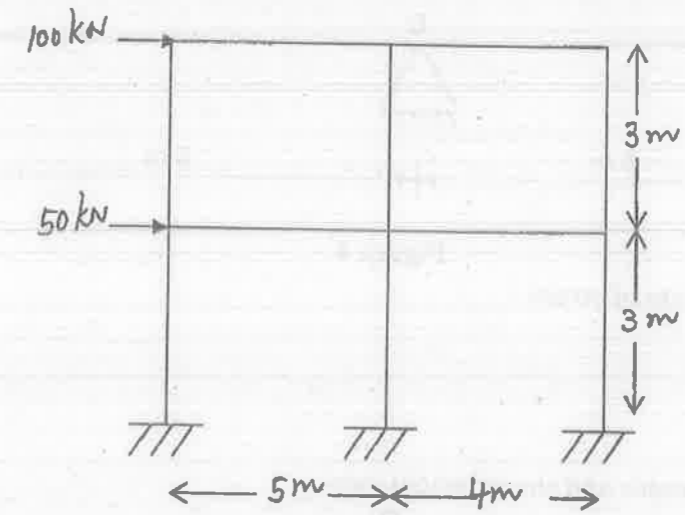

Figure 2
13. Analyse the plane frame shown in Figure.2 by cantilever method :